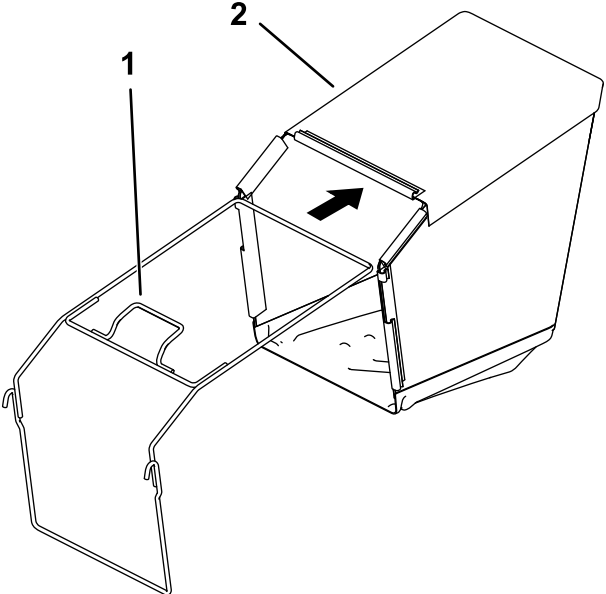

Figure 7
- Insert the frame into the grass bag, keeping the handle above the grass bag (Figure 7).